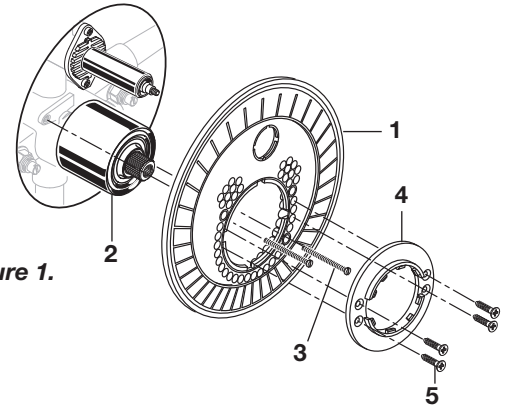

Figure 1.
- **Figure 1.** Push ESCUTCHEON HOLDER (1) onto CAP (2), and attach to valve body with SCREWS (3). Mount ESCUTCHEON SUPPORT (4) to ESCUTCHEON HOLDER (1) with SCREWS (5).